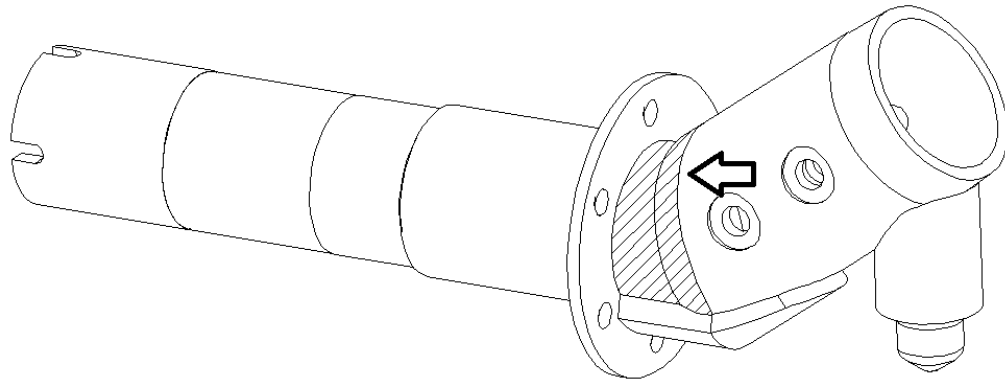

Figure 3 – External Inspection Area of Axle Assembly
2. Do a detailed visual inspection, using at least 10x magnification and a strong light source in the welded area indicated in Figure 3. Look for indications of cracking in the paint or protective thermal spray coating applied to the Axle at the factory.
2. Do a magnetic particle inspection of the areas indicated in Figure 3 in accordance with ASTM E-1444.